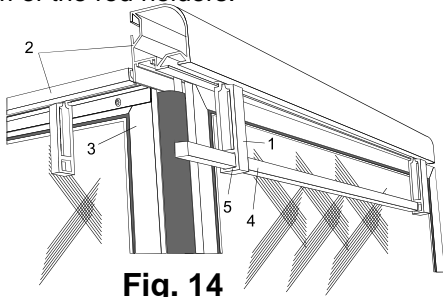

Fig. 14
1. Insert square rod holders (1) into slots in the bottom of the front and side top extrusions (2) on the outside of the screen panels (3) (see Fig 14).